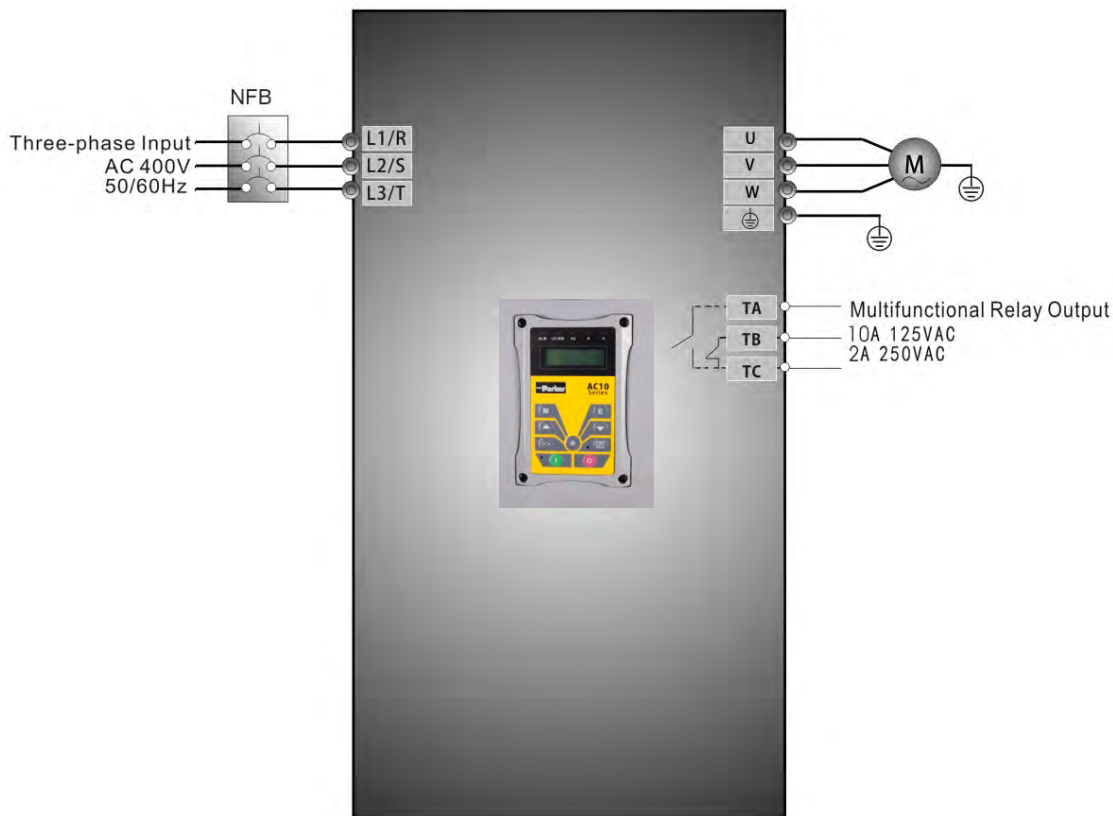

Figure 8-1 Wiring Diagram 1
- i. Connect the wires in accordance with Figure 8-1. After having checked the wiring successfully, switch on the isolator, and power on the inverter;